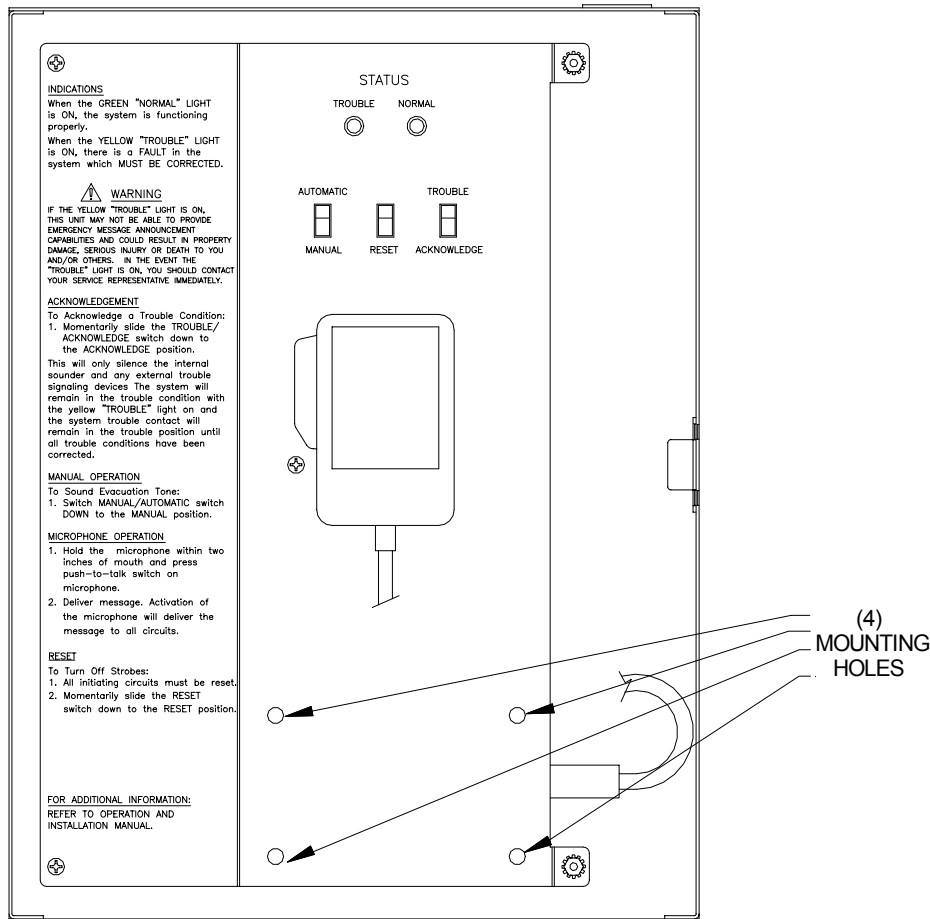
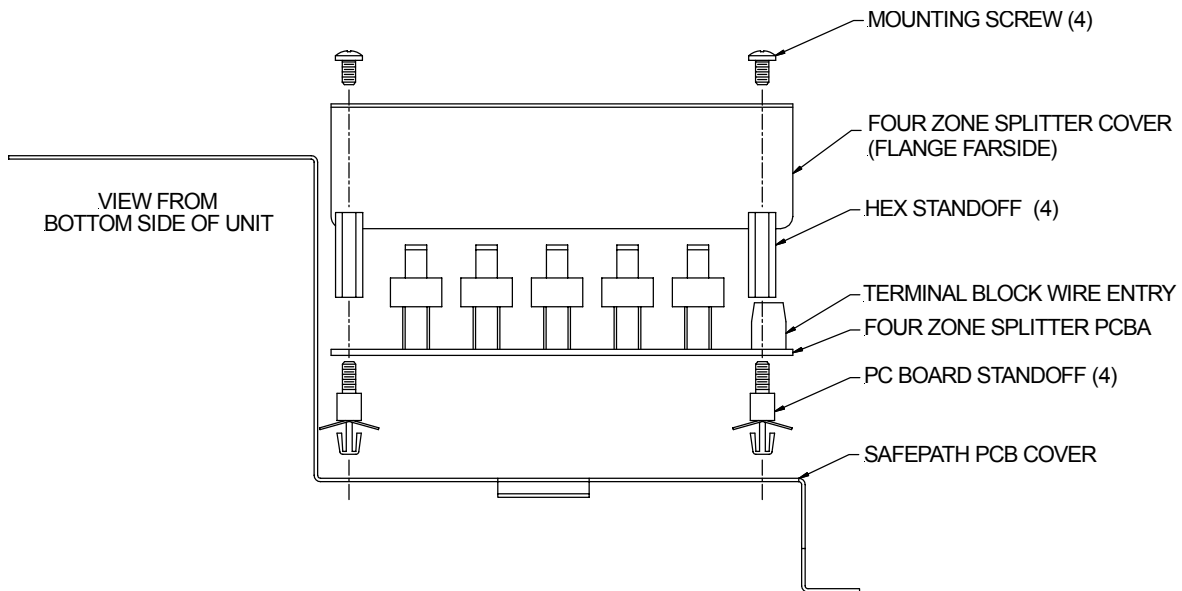

Figure 1.
Figure 2.
1. Attach the 4 male PCB standoffs to the 4 mounting holes in the Single Circuit SAFEPATH PCB cover (see Figure 1) by pushing standoff into the hole until it locks into place as shown in Figure 2.
2. Place the Four Zone Splitter PCB on to the threaded stud portion of the PCB standoffs so that the studs mate with the mounting holes on the PCB as shown in Figure 2.